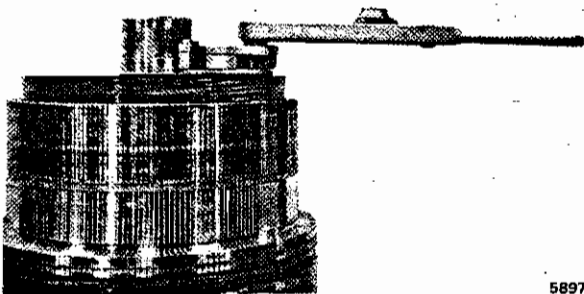

Fig. 61 - Checking Commutator Bolts
16. If armature bolts have been loosened for any reason during repair, torque commutator bolts after armature has cooled using a torque wrench and 4:1 reduction gear as shown in Fig. 61. Torque armature commutator as follows: